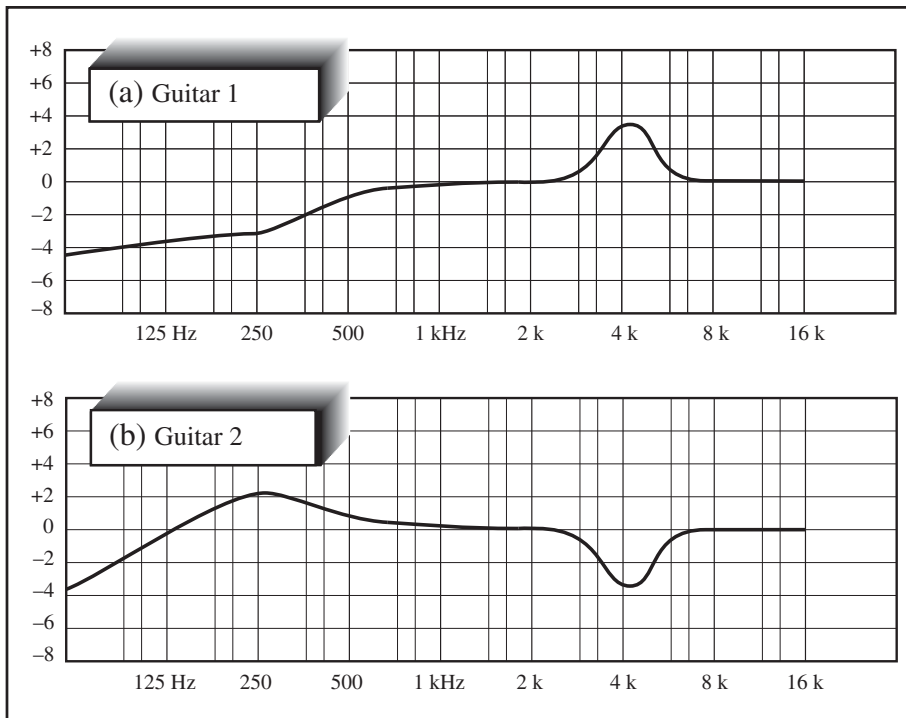

FIGURE 8.6
- **Freq. out.** Minimize frequency overlap by pulling offending frequencies that mask more important sounds. Pulling a frequency on one track changes the way other tracks interact at those frequencies. Figure 8.6 shows the frequency response of equalization applied to two guitars.